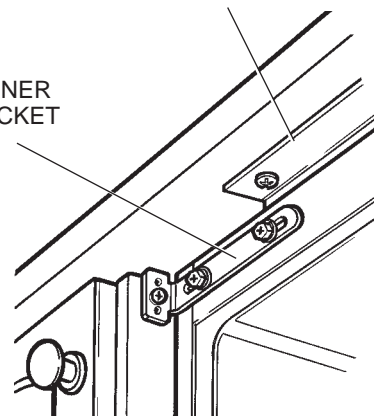

FIGURE 12
4. When you are satisfied with the position of the appliance, screw the door hinges (top and bottom) to the adjacent cupboard (Figure 12).